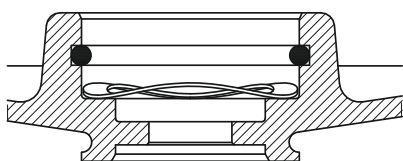

Fig. 29 Correct fitting of spring and O-ring
1. Push bearing (pos. 154) onto shaft (pos. 51).
2. Fit spring (pos. 158) and O-ring (pos. 159). See fig. 29.